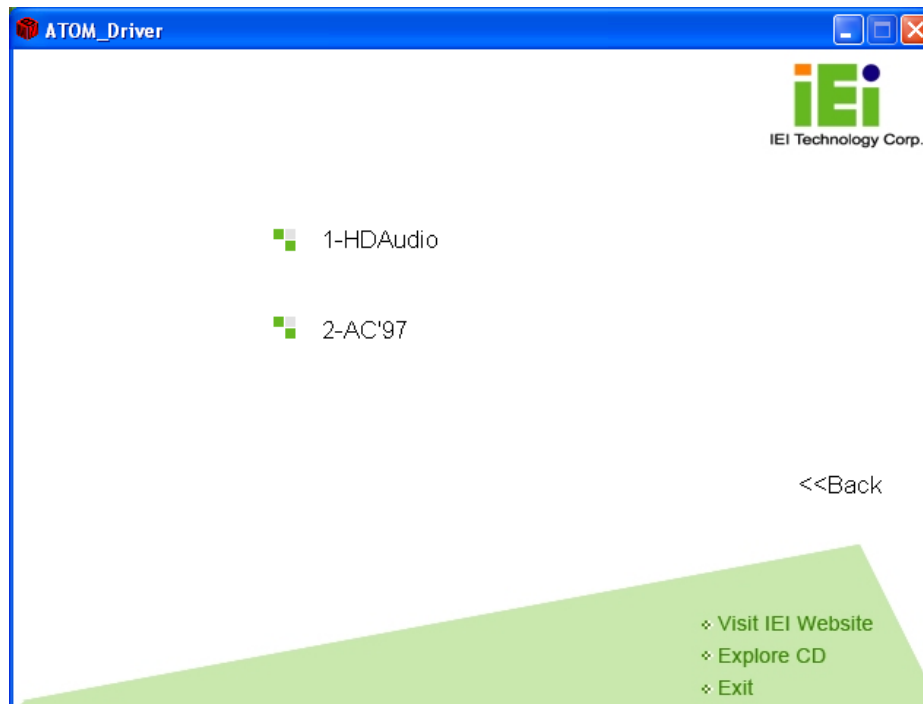

Figure 7-21: Audio Driver Options
Step 3: The screen in **Figure 7-21** appears.
Step 1: Select "1-HDAudio" in Figure 7-21.
Step 1: Select "2-AC'97" in **Figure 7-21**